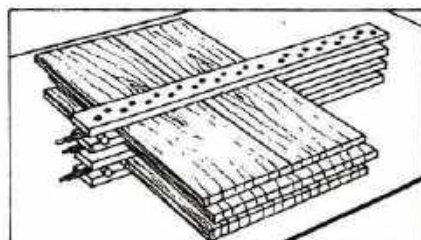

Fig.229 WOODEN GLUING DEVICE
5. Wooden gluing device Fig.229